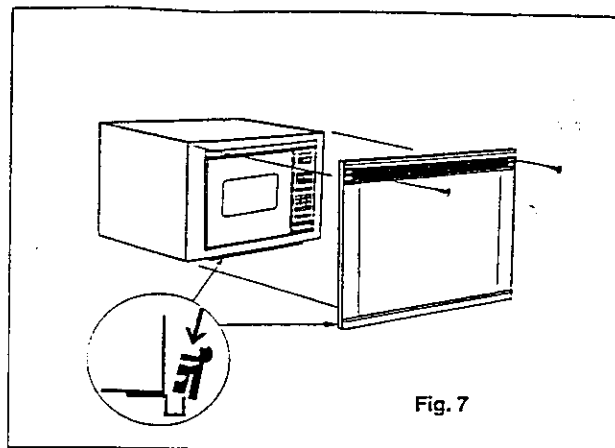

Fig. 7
- Attach trim assembly as shown in Fig. 7. Insert bottom of trim assembly into rail and rotate upward. Attach top of trim to cabinet with 2 flat head screws.